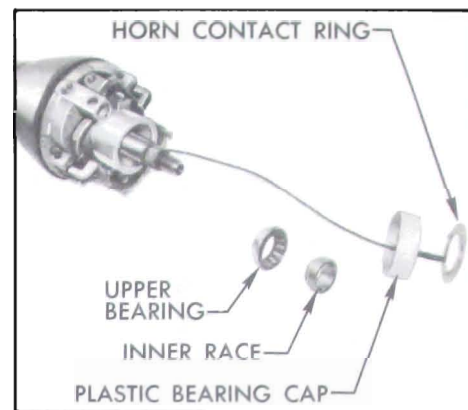

Figure 8-76—Removing Inner Race and Upper Bearing from Upper Portion of Mast Jacket
7. Pry up horn contact ring and plastic bearing cap, and withdraw horn contact ring wire as far as necessary. Lift off inner race and upper bearing (see Figure 8-76).